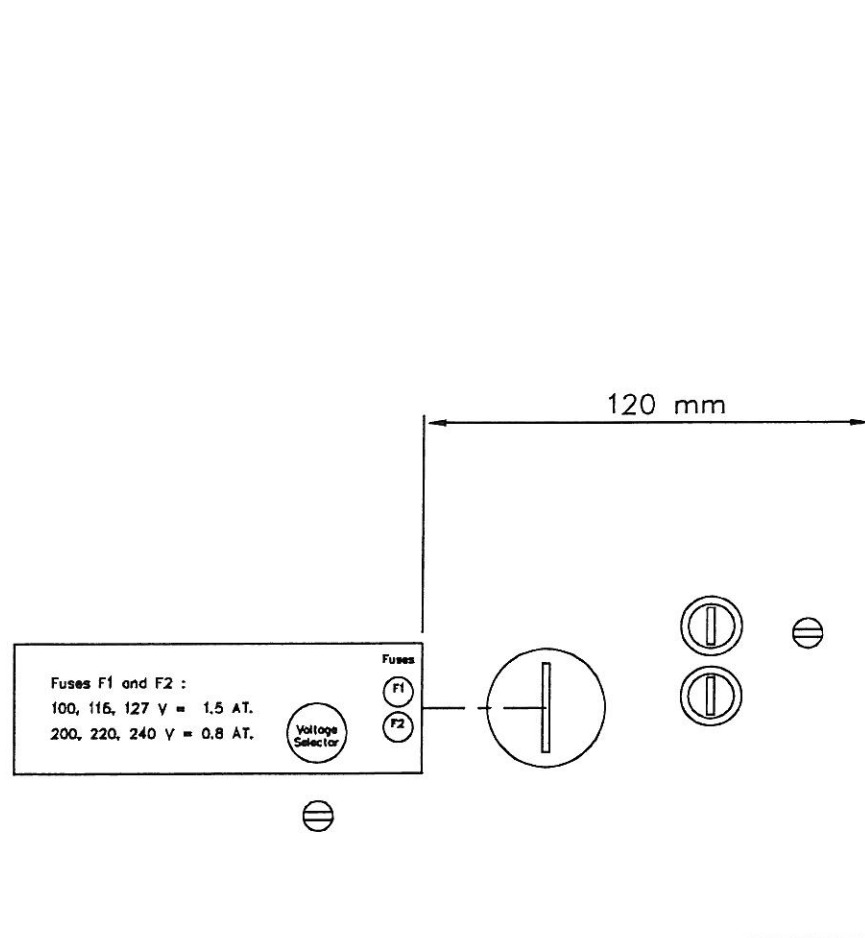

Fig. 2.4 Voltage Selector & Fuses.
The Voltage Selector is located on the bottom plate of the audio-meter, at the corner near the power inlet (see Fig. 2.4).
Two fuses are located on the bottom plate of the instrument, next to the Voltage Selector. **When fuses need to be replaced, both fuses must be changed.** To replace fuses, please proceed as follows (ref. Fig. 2.4).
3. The fuses are located next to the Voltage Selector (see Fig. 2.4).